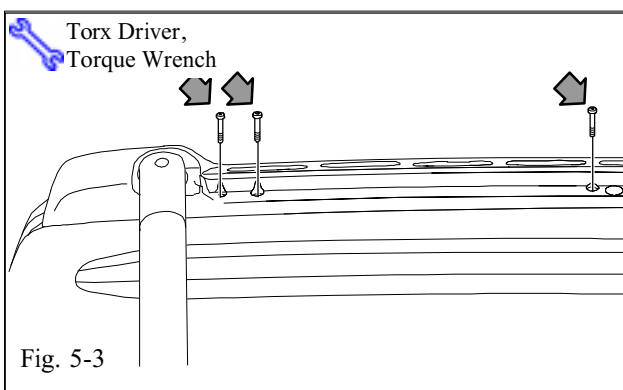

Fig. 5-3
- (e) Hand start the 3 long torx head screws into roof rack along roof ditch. (Fig. 5-3)
-  (h) Torque the 3 long torx head screws into the roof rack along roof ditch to 13.3 N.m (117.7 lbf-in) (Fig. 5-3)